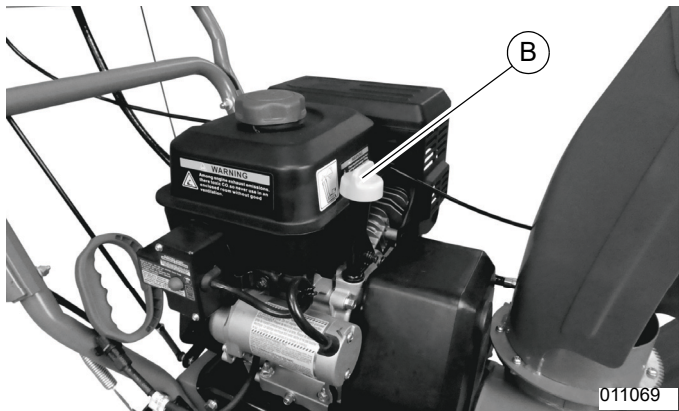

Figure 4-2. Oil Fill/Dipstick
6. See Figure 4-2. Remove oil fill/dipstick cap (B).